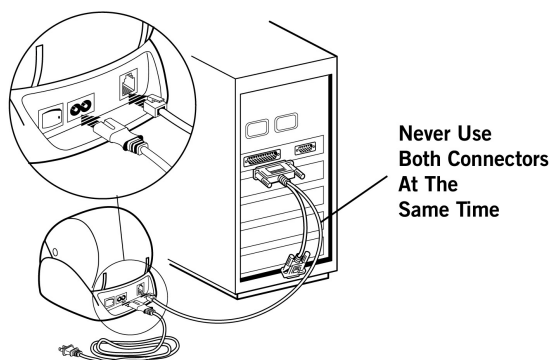

Figure 1-2.
You connect the power cord to the rear of the printer as shown in Figure 1-2. Plug the other end to a power outlet. The LabelWriter printer has an internal power supply that can accept any voltage between 100 and 250 volts (50/60Hz). As a result, the printer can be used worldwide.
Follow the steps below while referring to Figure 1-2 to make the proper connections:
3. If you have a 9-pin serial port on your computer, attach the 9-pin connector; if you have a 25-pin serial port, attach the 25-pin connector. Secure the connector with the two screws. The connector you do not use can simply hang loose. See Figure 1-2.